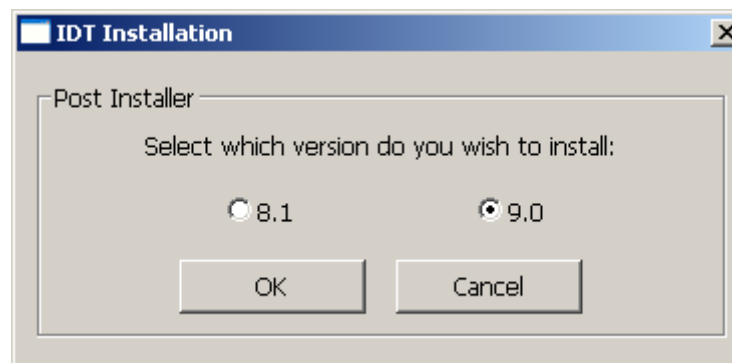

Figure 1 - 40:
- 6** Select the CANpro version you work with 8.1 or 9.0 (in the example in Figure 1 - 40, V9.0 is selected). Click **OK**. If your previous set was CANpro 8.1, the message in Figure 1 - 41 appears.